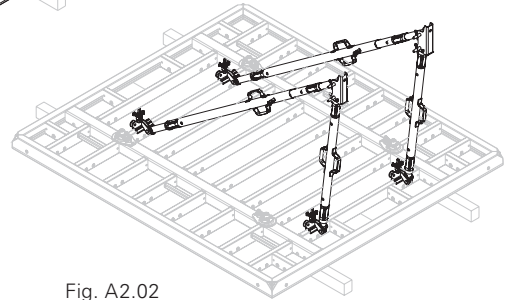

Fig. A2.02
- 2 push-pull-props. (Fig. A2.02)